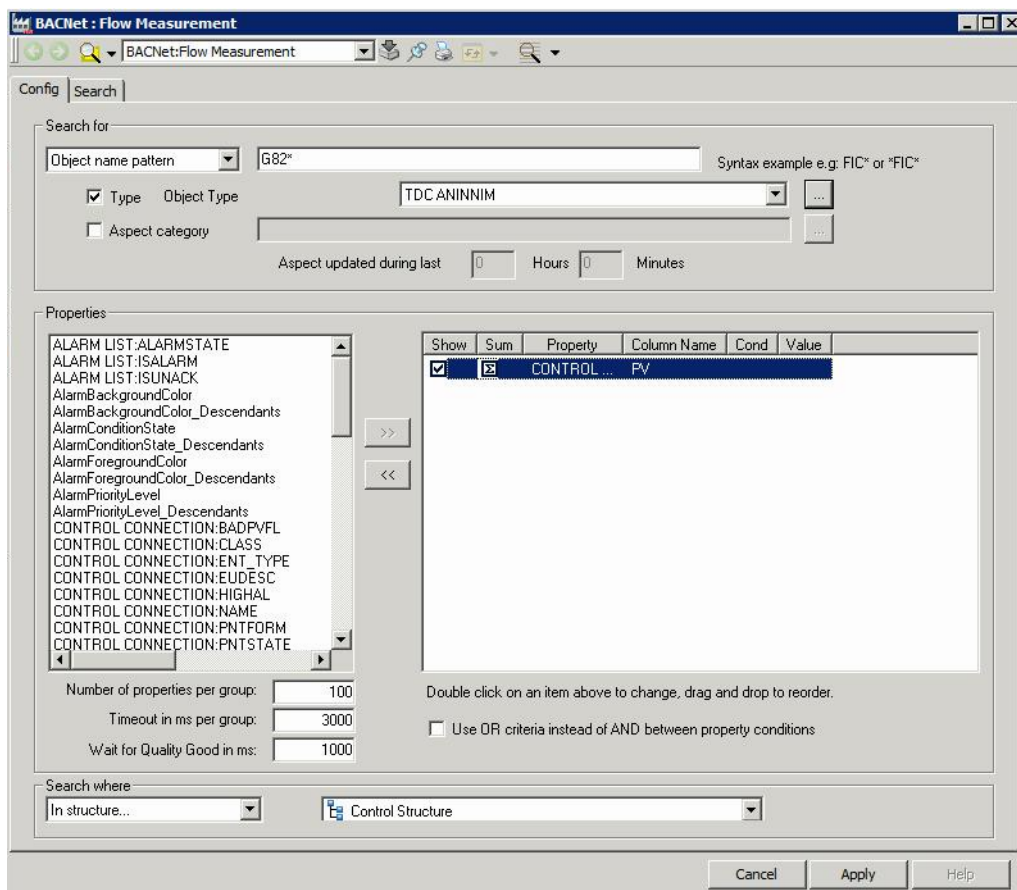

Figure 21. Specify Flow Measurement search
8. After the test search, go back to the Config tab and specify the search to only present objects with names starting with G82...(Flow Measurement objects in the example). Use the Name field and enter the text G82. Also summarize the total Flow Measurement by checking the Sum field on the PV property as shown in Figure 21. Narrow the search to Control Structure to avoid duplicate hits on the same object.